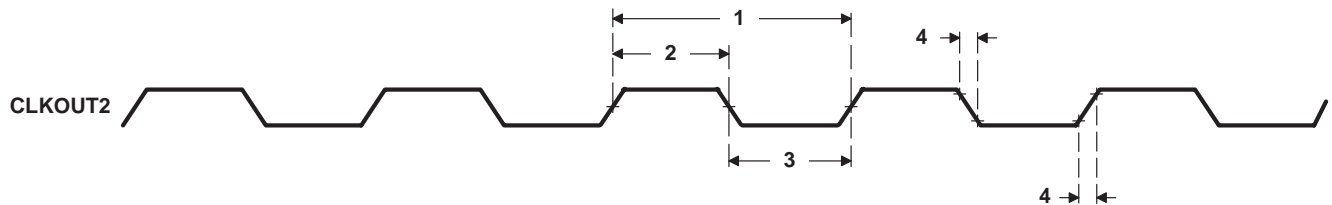

Figure 10. CLKOUT2 Timings
**switching characteristics for CLKOUT2† (see Figure 10)**